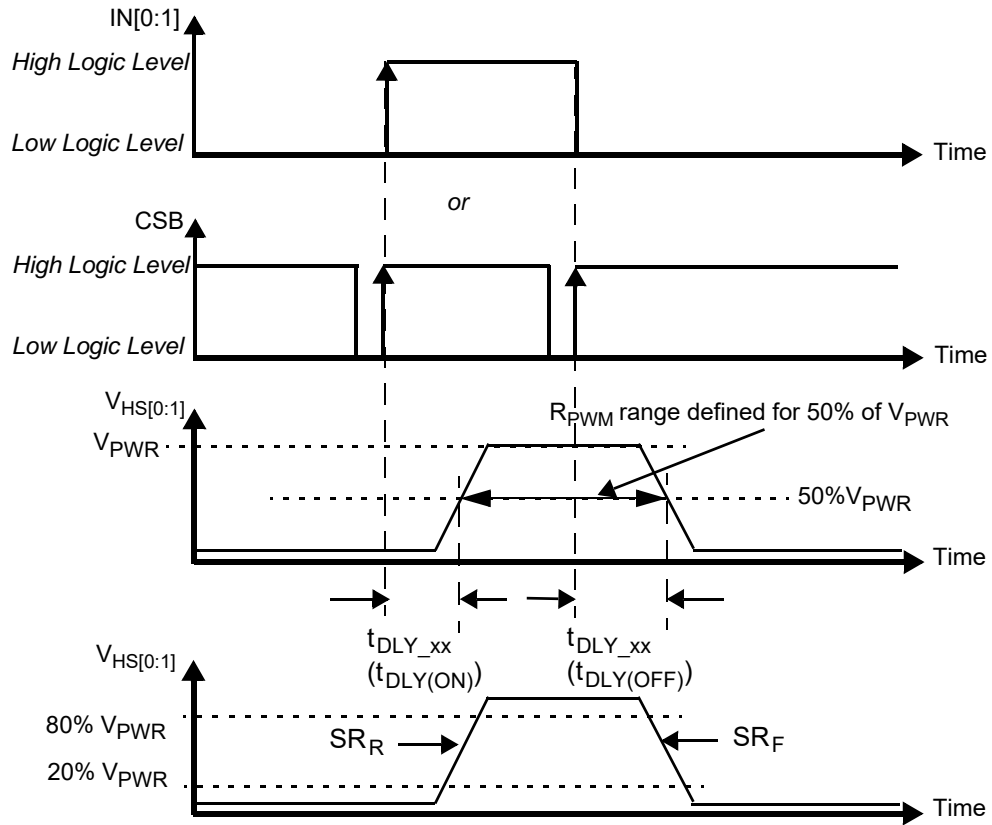
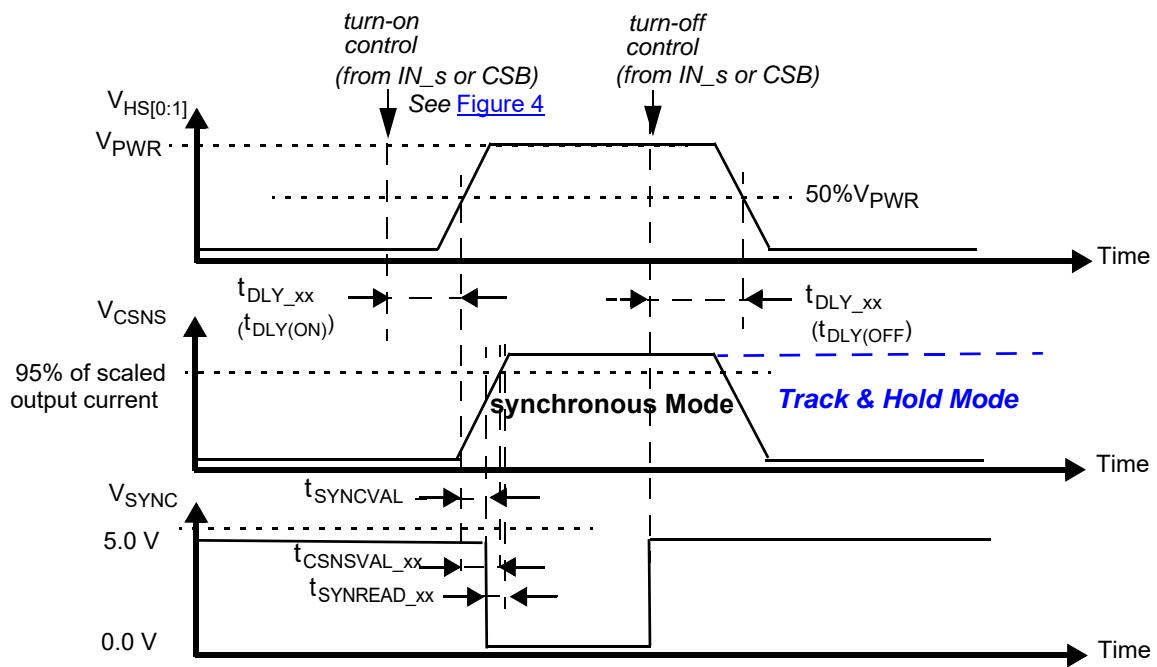

Figure 4. Output voltage slew rate and delay
Figure 9. Synchronous and Track & Hold current sensing modes: associated delay and settling times
30. Rising and Falling edge slew rates specified for a 20 to 80% voltage variation on a $10\ \Omega$ resistive load (see Figure 4).
32. Time required to switch off the channel after detection of overtemperature (OT), overcurrent (OC), SC or UV error (time measured between start of the negative edge on the FSB pin and the falling edge on the output voltage until $V(\text{HS}[0:1]) = 50\%$ of V_{PWR}).
33. Settling time ($= t_{\text{CSNSVAL_xx}}$), SYNC output signal delay ($= t_{\text{SYNCVAL_xx}}$) and Read-out delay ($= t_{\text{SYNREAD_xx}}$) are defined for a stepped load current ($100\text{ mA} < I(\text{LOAD}) < I(\text{OCLX A FOR CSNS_RATIO_S} = 1)$, AND $300\text{ mA} < I(\text{LOAD}) < I(\text{OCLX A}_0 \text{ FOR CSNS_RATIO_S} = 0)$). (see Figure 9 and Output current monitoring \(CSNS\))
34. Settling time ($= t_{\text{CSNSVAL_xx}}$), SYNC output signal delay ($= t_{\text{SYNVAL_xx}}$) and Read-out delay ($= t_{\text{SYNREAD_xx}}$) are defined for a stepped load current ($100\text{ mA} < I(\text{LOAD}) < I_{\text{OCLX A}}$ FOR $\text{CSNS_RATIO_S} = 1$, AND $300\text{ mA} < I(\text{LOAD}) < I_{\text{OCLX A}_0}$ FOR $\text{CSNS_RATIO_S} = 0$). (see Figure 9 and Output current monitoring \(CSNS\))
The CS pin allows independent current monitoring of channel 0 or channel 1 up to the steady-state overcurrent threshold. It can also be used to sense the device temperature. The different functions are selected by setting bits CSNS1_en and CSNS0_en to the appropriate value (Table 23). When the CSNS pin is sensed during switch-off in the (optional) track & hold mode (see Figure 9), it outputs the scaled value of the load current as it was just before turn-Off. When several devices share the same pull-down resistor, the CSNS pins of devices, the current of which is not monitored, must be tri-stated. This is accomplished by setting CSNS0_en = 0 and CSNS1_en = 0 in their GCR register (Table 12). Settling time ($t_{CSNSVAL_XX}$) is defined as the time between the instant at the middle of the output voltage’s rising edge ($HS[0:1] = 50\%$ of V_{PWR}), and the instant at which the voltage on the CSNS pin has settled to $\pm 5.0\%$ of its final value. Anytime an overcurrent window is active, the CSNS pin is disabled (see Overcurrent detection on resistive and inductive loads). The current and temperature sensing functions are unavailable in Fail-safe mode and in Normal mode when operating without the V_{DD} supply voltage. In order to generate a voltage output, this pin requires a pull-down resistor ($R(CSNS)=1.0\text{ k}\Omega$ typ. and $470 < R(CSNS) < 10\text{ k}$). When the current sense resistor connected to the CSNS pin is disconnected, the CSNS voltage is clamped to $V_{CL(CSNS)}$. The CSNS pin can source currents up to about 5.6 mA.
To synchronize current sensing with an external process, the SYNC signal can be connected to a digital input of an external MCU. An open-drain pull-down on SYNC indicates that the current sense signal is accurate and ready to be read. The current sense signal on the CSNS pin has the specified accuracy $t_{SYNCREAD_XX}$ seconds after the falling edge on the SYNC pin (Figure 9) and remains valid until a rising edge is generated. The rising edge that is generated by the SYNC pin at the turn-OFF instant (internal or external) may also be used to implement synchronization with the external MCU. Parameter $t_{SYNCVAL_XX}$ is defined as the time between the instant at the middle of the output voltage rising edge ($HS[0:1] = 50\%$ of V_{PWR}), and the instant at which the voltage on the SYNC-pin drops below 0.4 V (V_{SOL}). The SYNC pins of different devices can be connected together to save micro-controller input channels. However, in this configuration, the CSNS of only one device should be active at a time. Otherwise, the MCU is not be able to determine the source of the SYNC signal. The SYNC pin requires an external pull-up resistor to V_{DD} .